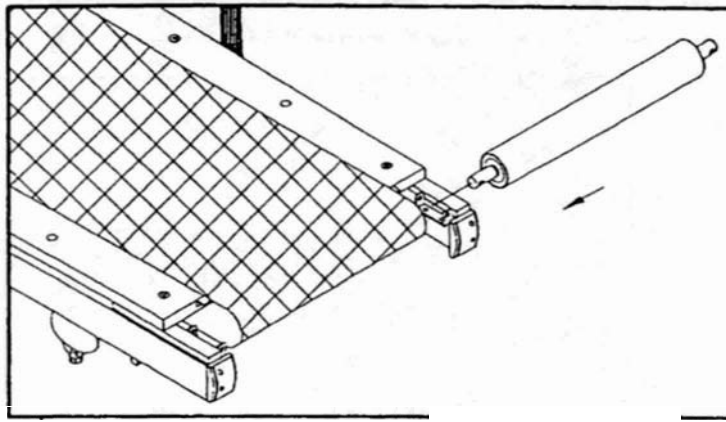

Fig.21
7. Place the rear roller. (see Fig.21)